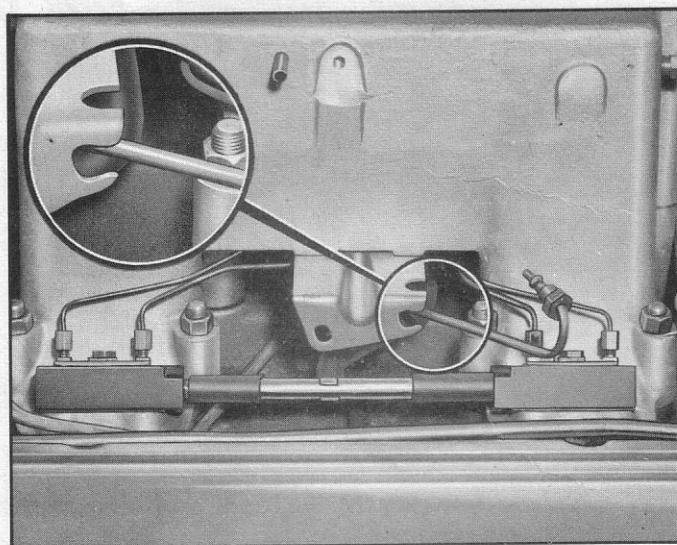

Fig. 84—Altering Lower Fuel Meter Bracket
1. File fuel meter lower mounting bracket forward hole into a horizontal, open slot (fig. 84) to facilitate on-the-vehicle installation. Start lower mounting bracket forward screw in fuel meter before attempting installation.